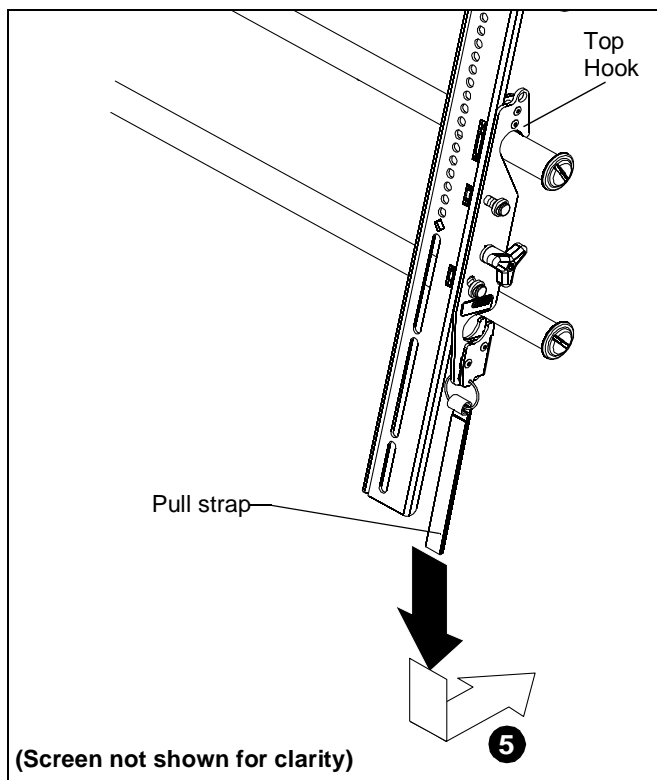

Figure 8
1. Adjust Velcro® pull strap (if necessary) so it does not extend beyond bottom of screen. (See Figure 8)
2. Hang top hook of interface brackets onto the top rail of the mount. (See Figure 8)
5. Pull downward on the pull straps and swing inward toward wall, latching interface brackets to lower rail and locking bottom of screen to the mount. (See Figure 8)